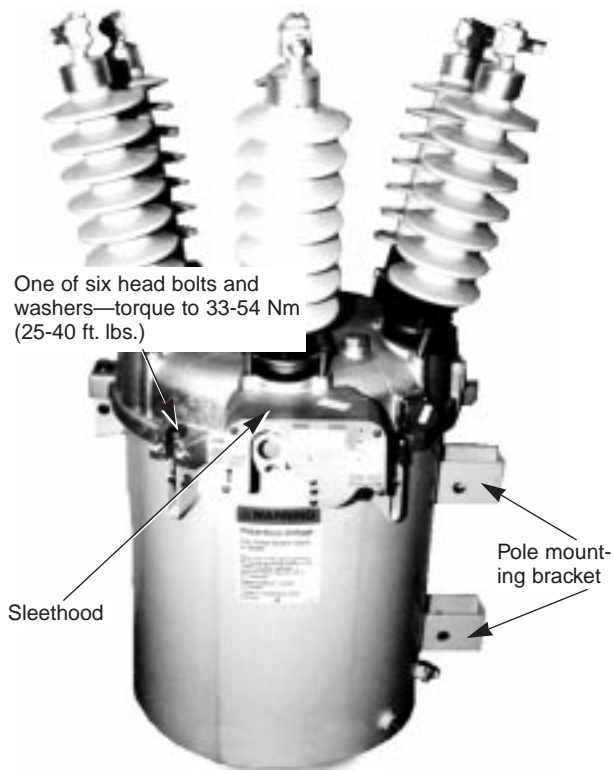

Figure 15.
- B. The sleethood should be located 90° from the tank pole mounting bracket (refer to Figure 15).